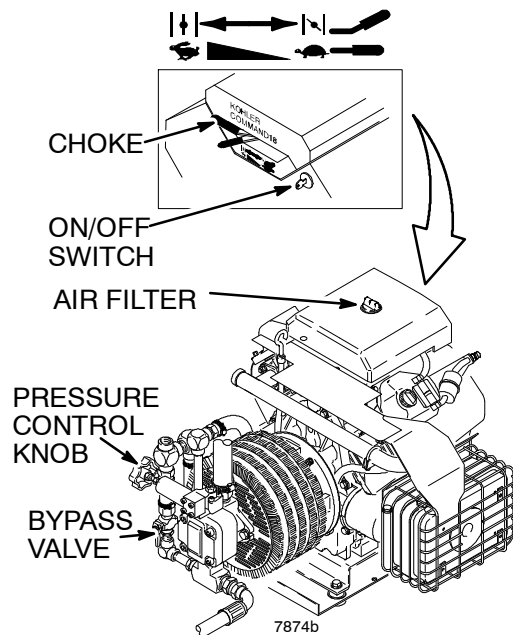

Fig 6
- a. Open the bypass valve to make startup easier. In the open position, the valve lever is parallel to the body of the valve. See Fig 6. Close the filter drain valve.
- d. If the engine is cold, close the choke by moving the choke lever. See Fig 6.
3. Turn and hold the ignition key to START until you hear the engine "catch", then release the key to RUN. See Fig 6. If the engine does not start, open the choke a little (move choke lever). If the engine floods, open the choke all the way and try again.
- e. After the engine is warm, gradually open the choke lever (move choke lever) and close the bypass valve. See Fig 6.
**To stop the engine in an emergency, turn OFF the ignition key. Close the bypass valve if possible. See Fig 6. Then follow the **Pressure Relief Procedure Warning** on page 10.**
- Squeeze the trigger and *slowly* turn the pressure control knob *clockwise* just enough to start the pump. See Fig 6.